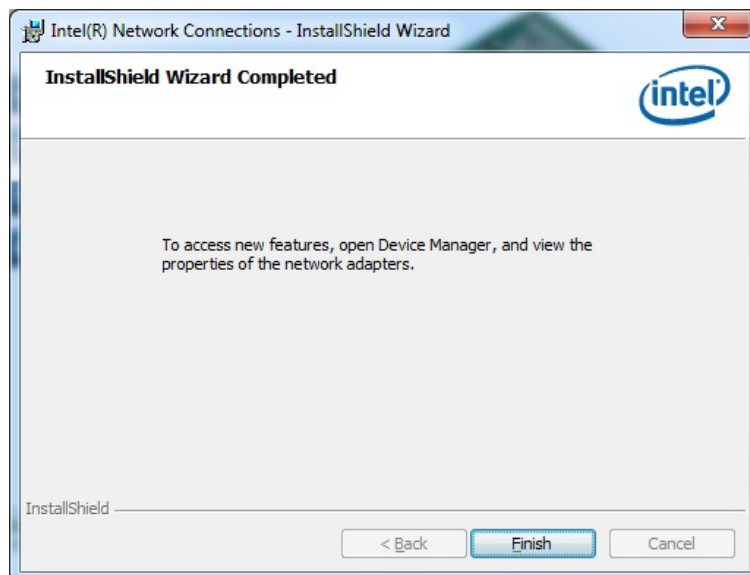

Figure 6-18: LAN Driver Installation Complete
Step 18: When the driver installation is complete, the screen in **Figure 6-18** appears.